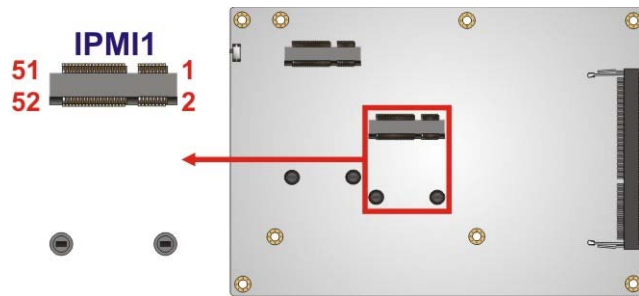

Figure 3-14: iRIS Module Slot Location
**CN Location:** See **Figure 3-14**